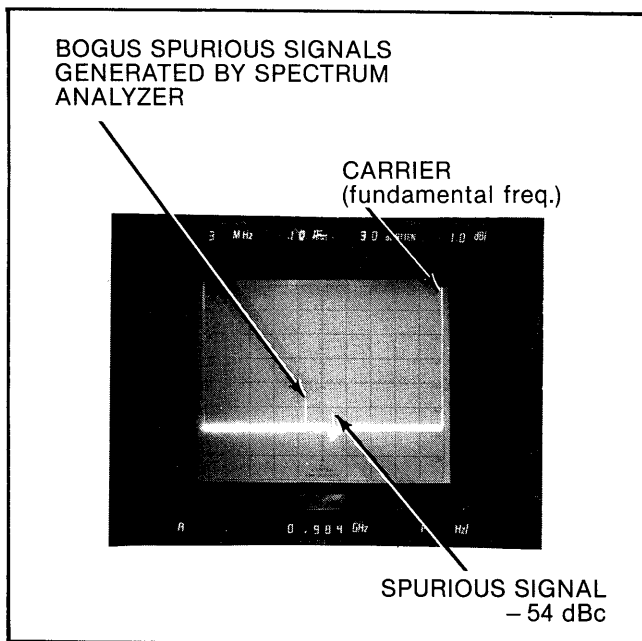

Figure 4-23. Example of a Spurious Signal
Spurious signals may be generally characterized as follows: they will (1) be weak in power, (2) "pop up" abruptly and track oppositely to the fundamental and harmonic signals, and (3) disappear abruptly. An example of a spurious response at 984 MHz is shown in Figure 4-23.